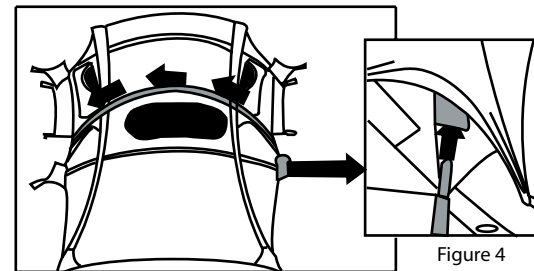

Figure 4
4. Insert the medium pole into the middle pole sleeve. **NOTE:** There are TWO poles sleeves under this navy flap. Make sure the medium pole uses the sleeve that runs closest to the door (Figure 4).